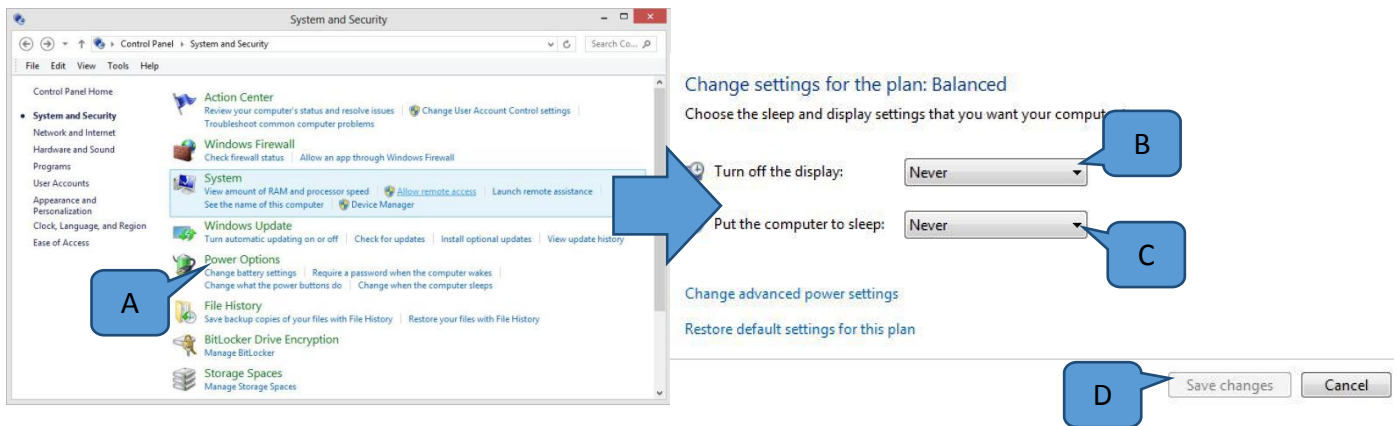

Figure 12 Power Option
13. Return to “System and Security” tab and enter to “Power Option” tab. Select “Never” for “Turn off the display” and “Put the computer to sleep” and click “Save changes” as Figure 12.
15. Expand the “Hard disc” tab and set the “Turn off hard disk after” to “0”. Then go to “Sleep” and expand, set the “Sleep after” to “0” and “Hibernate after” to “Never” as Figure 12. Click “Ok” once set-up complete.